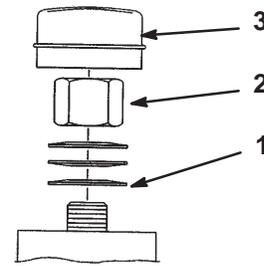

Figure 47
2. Remove dust cap from caster and tighten lock nut (Fig. 47).
3. Tighten until spring washers are flat and then back off a 1/4 turn to properly set the pre-load on the bearings (Fig. 47).
Important Make sure spring washers are installed correctly as shown in figure 47.